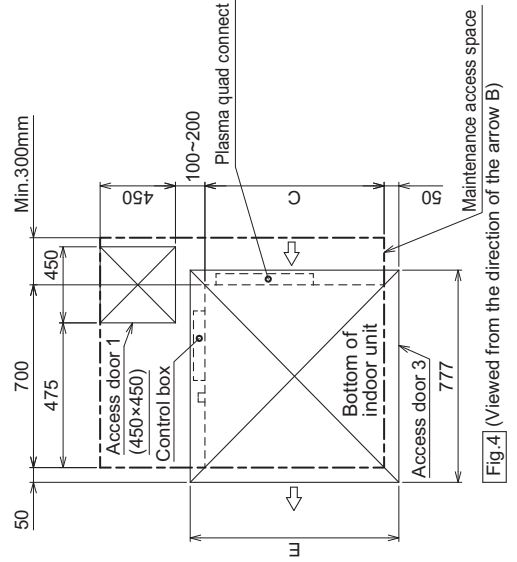

Fig.4 (Viewed from the direction of the arrow B)
• Create access door 1 diagonally below the control box and access door 3 below the unit as shown in Fig.4.